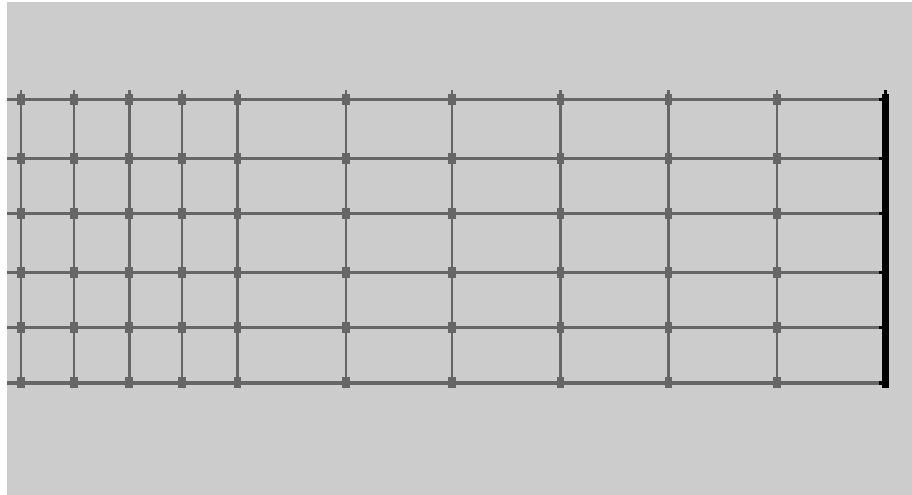

Figure 9-3 Location of the nodestrings in the mesh.
1. Choose the *Create Nodestring*  tool from the *Tool Box* and create a nodestring across the outflow boundary as in Figure 9-3.